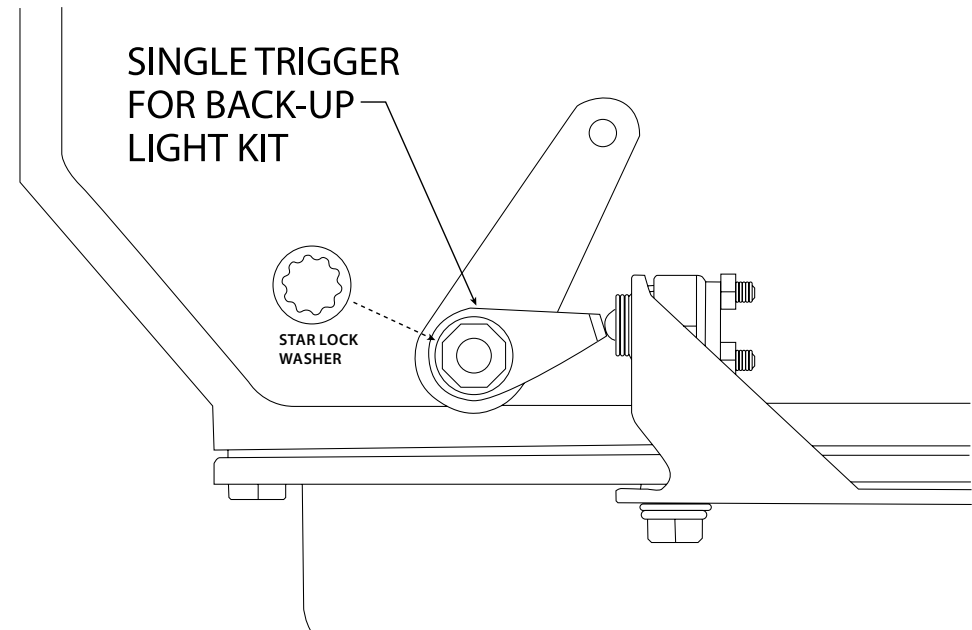

Figure 2
Step 2: Install single trigger to transmission gear selector shaft, with the internal star lock washer between the nut and the trigger. Put transmission in reverse and make sure ball switch is depressed. See **Fig. 2** on page 2.